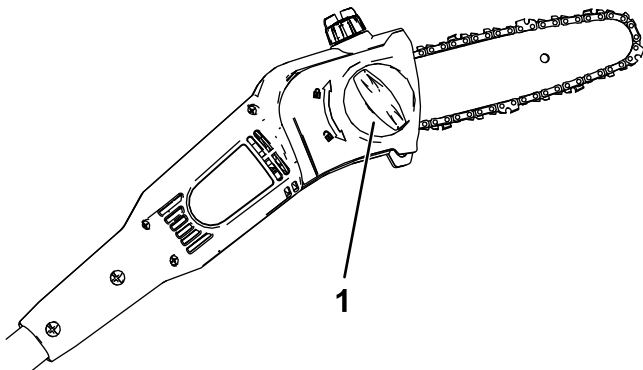
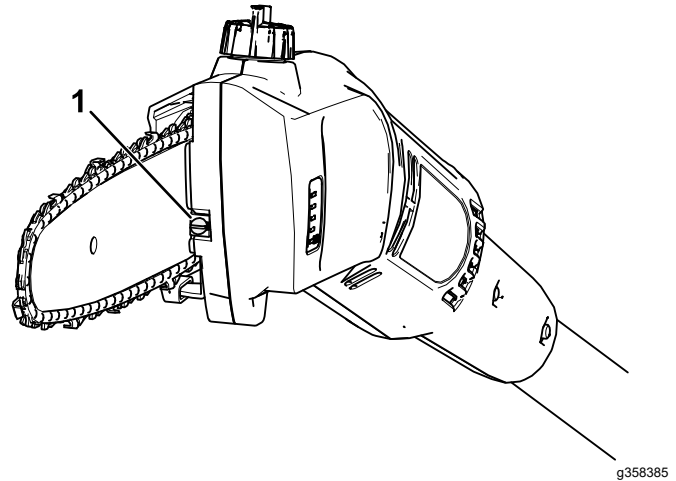

Figure 15
Figure 16
4. Turn the bar cover knob counterclockwise to loosen the bar cover, but do not remove it (Figure 15).
5. Adjust the chain tension using the chain tensioning screw (Figure 16), and then secure the side cover to the pole saw by turning the bar cover knob clockwise before checking the tension (Figure 15).
3. Loosen the chain by turning the chain-tightening screw counterclockwise (Figure 16).